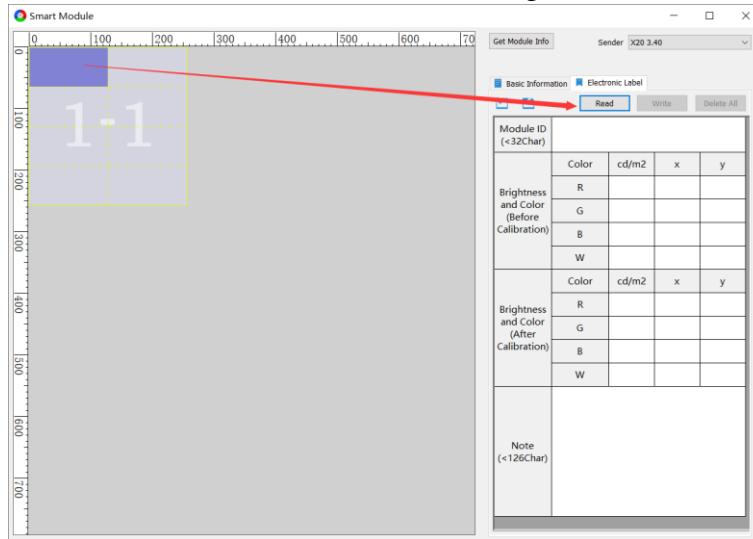

Fig 11.3.1 Read module label
Step 1: Select a module and click **Read**, as shown in Figure 11.3.1.